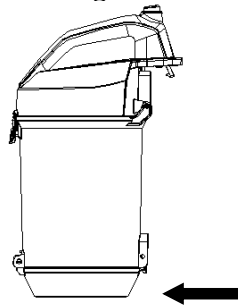

Fig.8
3. As in Fig.8, put the dust cup onto the rubbish bin, push the release button to open the bottom of the dust cup, and the dirt and dust will fall into the bin by itself.